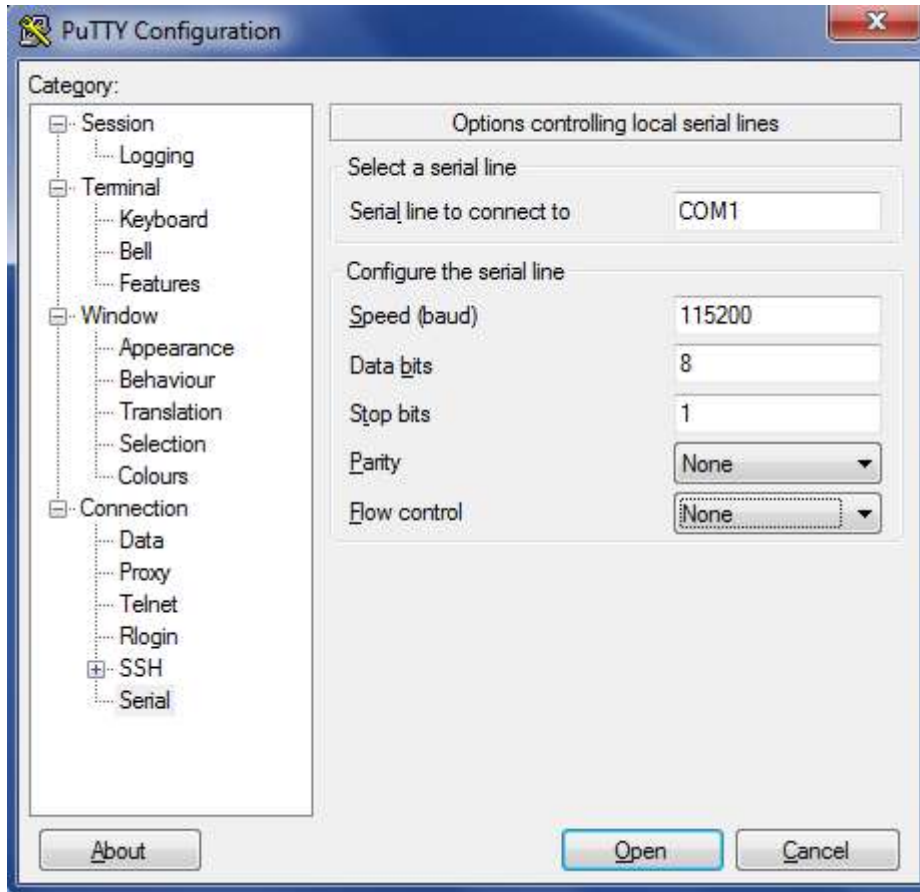

Figure 5.6 Putty Configuration Settings
5. On the Putty Configuration dialog, shown in Figure 5.6, verify that **Serial line to connect to** is set to **COM1**. Note: If you are using a serial to USB adapter, this field can be set to a different COM port.